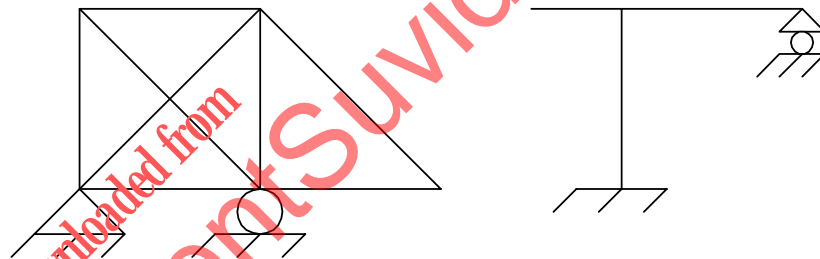

Fig. 1. Q. 1.(a)
- Q.1** (a) Find SI and KI for the structures shown in Fig.1. **04**